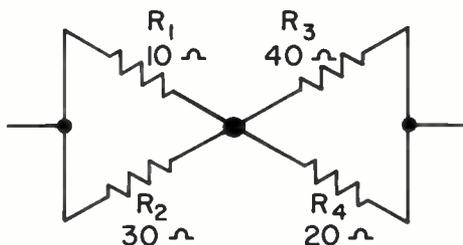

Fig. 20
(1) 1 A (3) 3 A (5) 6 A
(2) 2 A (4) 4 A
8. You want to replace the four resistors of Fig. 20 with a single resistor. What value should it be? (It will be helpful to redraw this circuit, so that the components in series and those in parallel will be more readily apparent.)